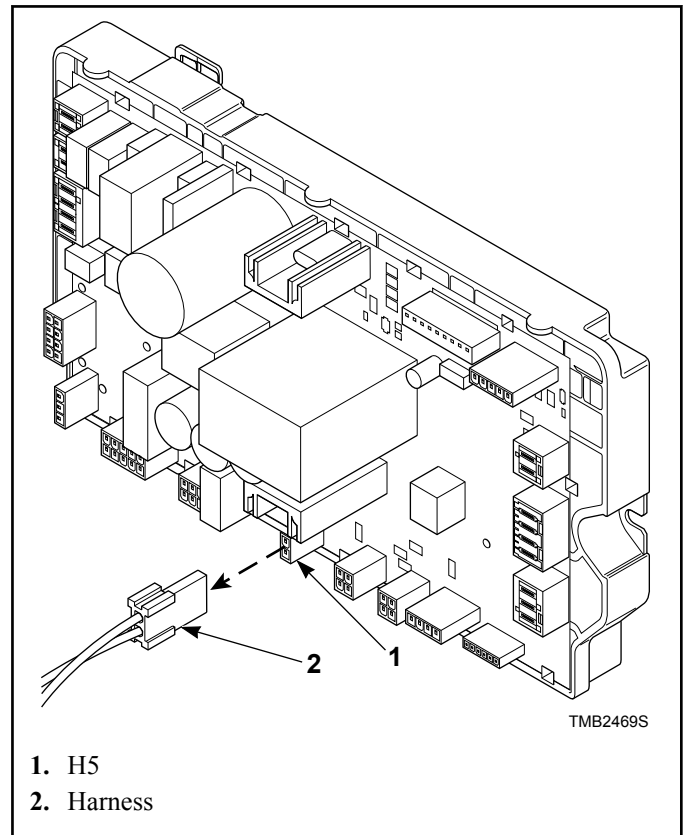

Figure 5
1. On the control board, unplug the harness from header H5 (Refer to *Figure 5*).
2. Insert ohm meter probes into pins 1 and 2 of the harness. If the metered value is infinite resistance, open load (OL), proceed to step 3. If not, proceed to *Troubleshooting From Control to Slip Ring Assembly*.
1. At the control, unplug harness at header H5 (Refer to *Figure 5*).